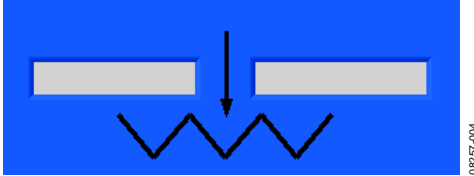

Figure 4. Resistor Figure: Left Position, Resistance from A to W; Right Position, Resistance from W to B
- **READ** shows the actual value of the RDAC or the value of the selected 20-TP memory location. These values are displayed in the resistor, as shown in Figure 4, and are updated when you read from or write to the part.